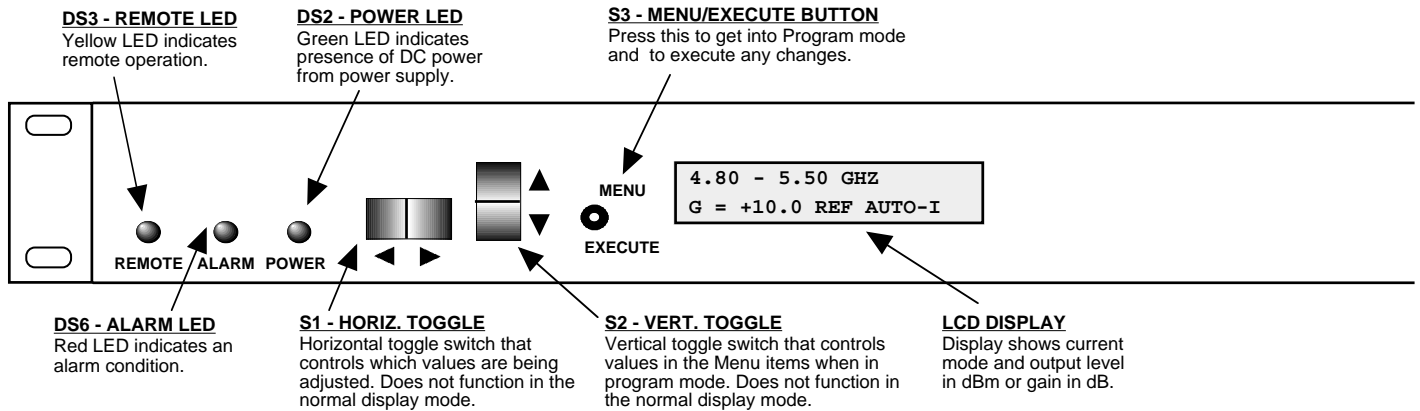

FIGURE 2.2 3116-4855# Front Panel Controls and Indicators
Figure 2.2 shows the front panel controls and indicators.
6. Be sure DS2 (green, DC Power) is on and DS6 (red, Alarm) is off (Figure 2.2).
Alarm indications appear on the LEDs (see Figure 2.2).